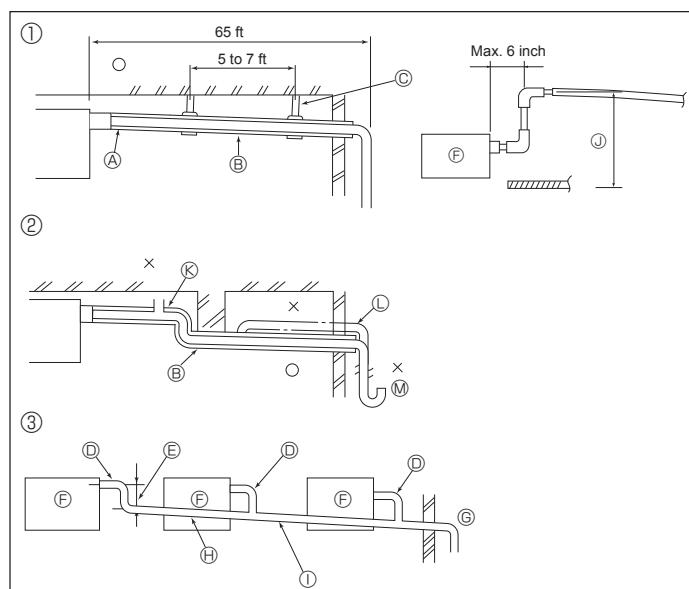

Fig. 4-1
4.1. Drainage piping work (Fig. 4-1)
① Correct piping	⑥ Make the piping size large for grouped piping.
② Wrong piping	⑦ Downward slope (1/100 or more)
③ Grouped piping	⑧ O.D. ø38 mm, 1-1/2 inch PVC TUBE for grouped piping (9 mm, 11/32 inch or more insulation)
④ Insulation (9 mm, 11/32 inch or more)	⑨ Up to 850 mm, 33-7/16 inch
⑤ Downward slope (1/100 or more)	⑩ Air bleeder